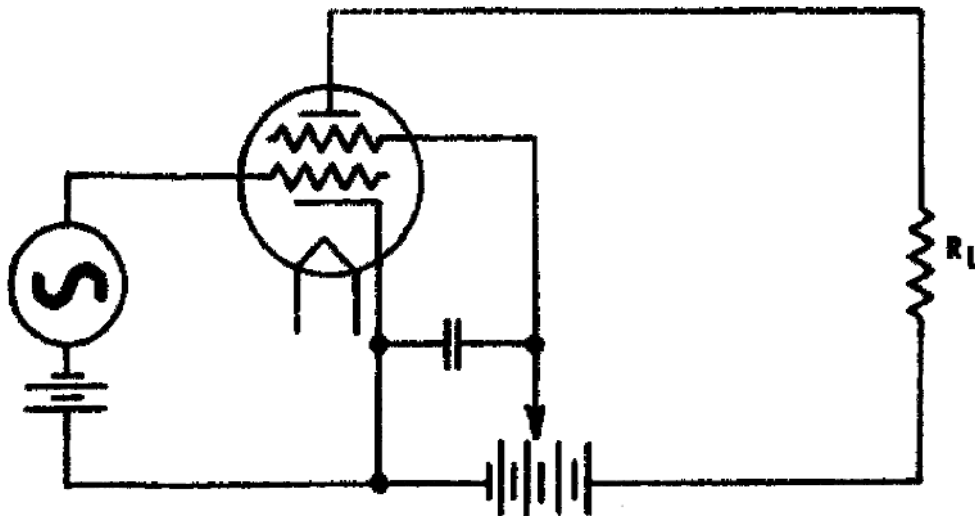

Figure 98. Tetrode amplifier circuit.
19. To correct this fault, another tube was built that has a grid similar to the control grid placed between the plate and the control grid as seen in figure 98. This new grid is connected to a positive potential somewhat lower than the plate potential. It is also connected to the cathode through a capacitor. The second grid serves as a screen between the plate and the control grid and is called a screen grid. The tube is called a tetrode.